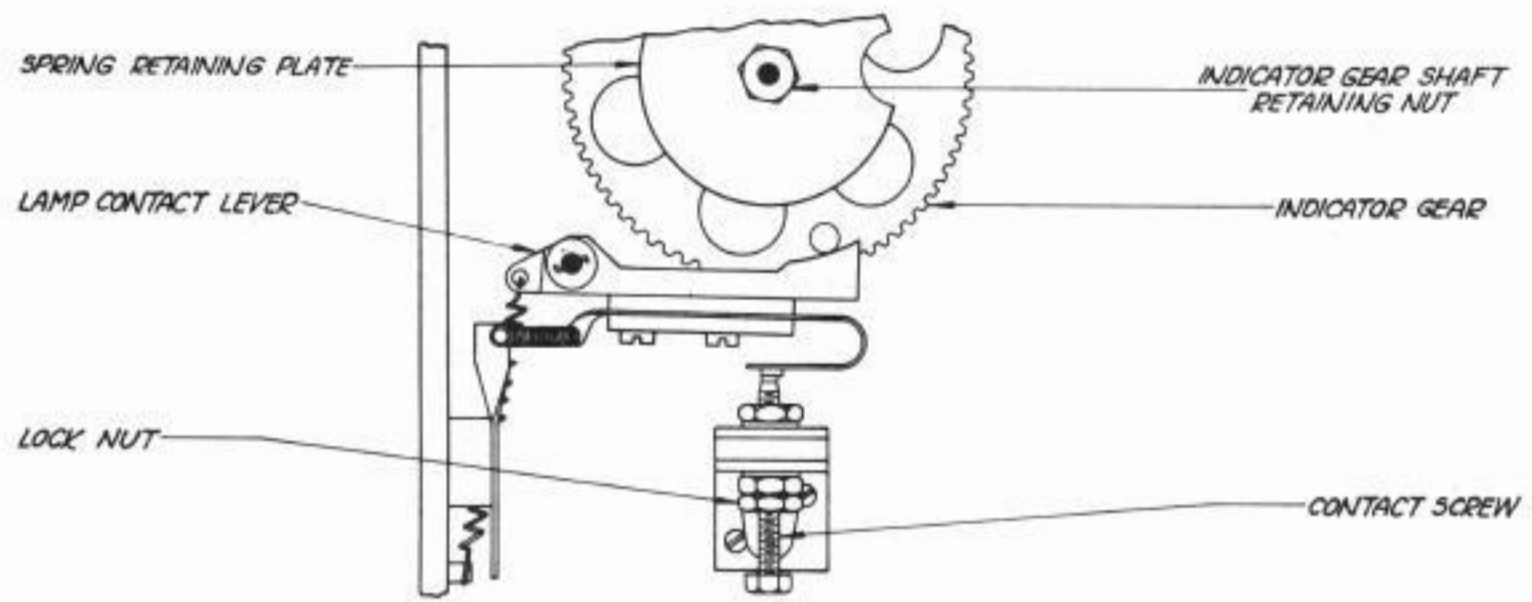

FIGURE 16
*Indicator Gear Return Spring Tension Adjustment (Figure 16)
***Indicator Lamp Contacts Adjustment (Figure 16) - See Note (A)**